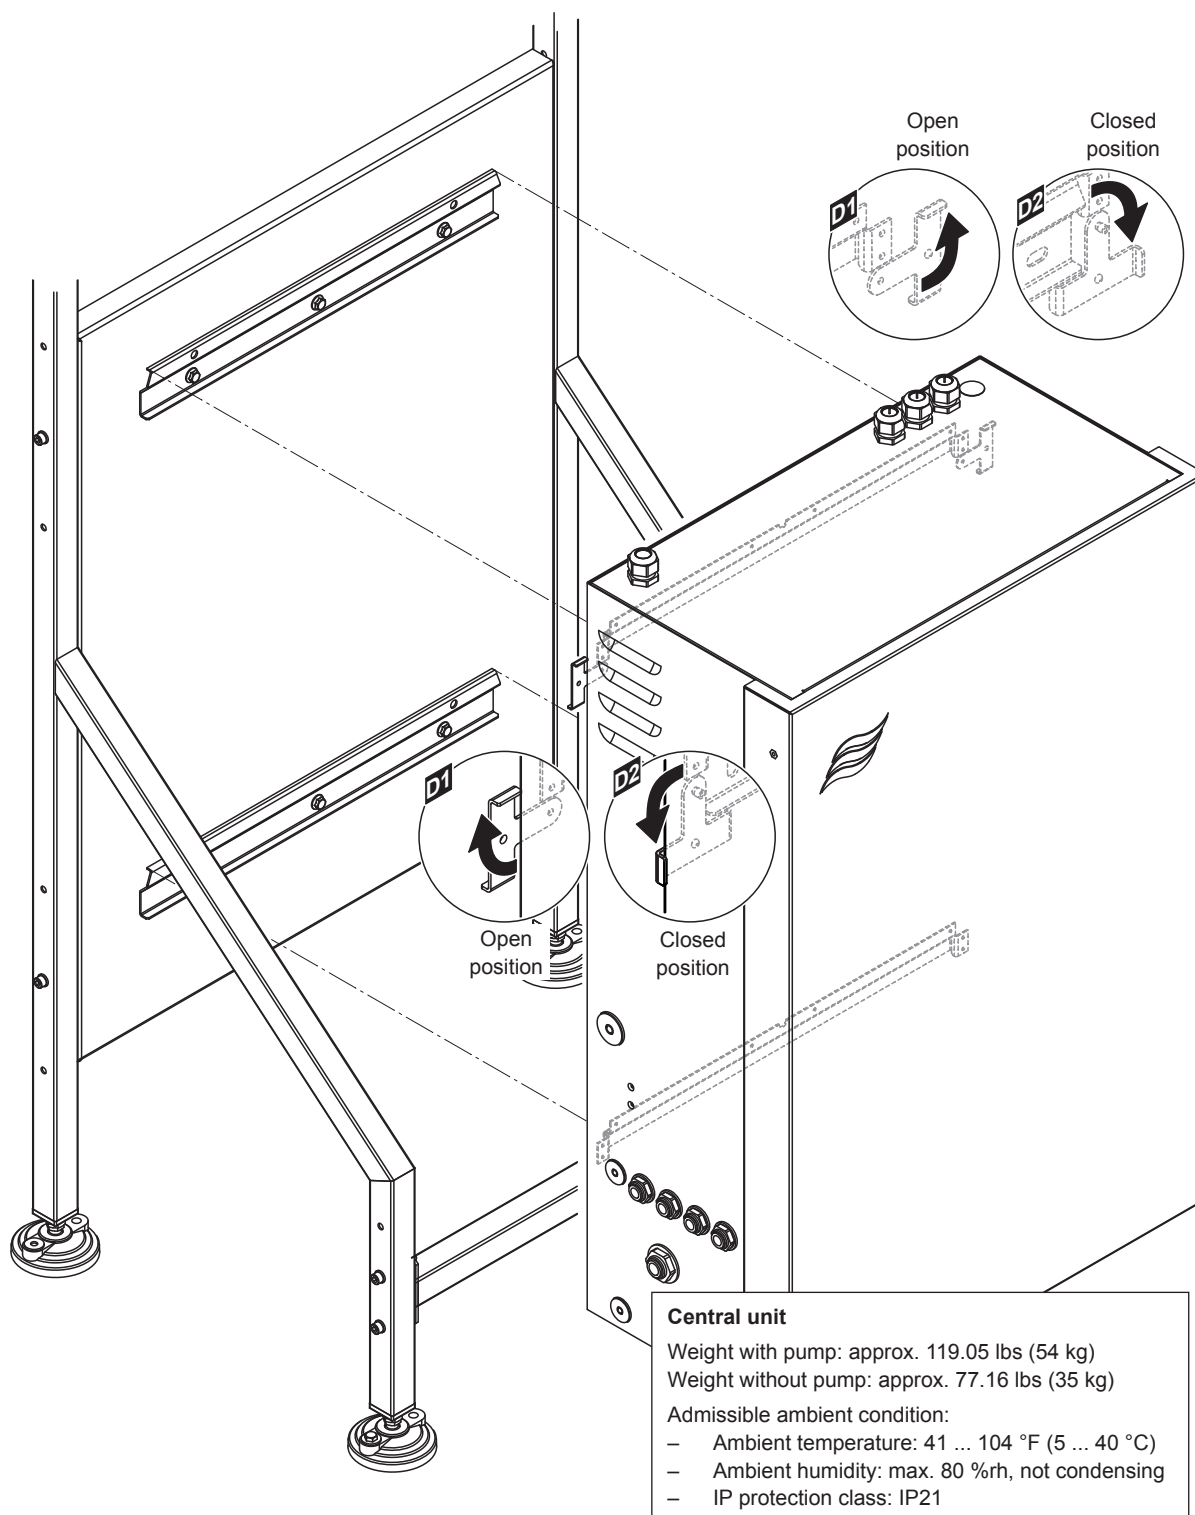

Fig. 41: Mounting the central unit to the mounting rack - dimensions in Inch (mm)
1. Move the locking hooks on the back of the central unit to open position (see detail D1 in Fig. 41).
3. Move the locking hooks on the back of the central unit to closed position (see detail D2 in Fig. 41) in order to fix the central unit to the upper wall support.